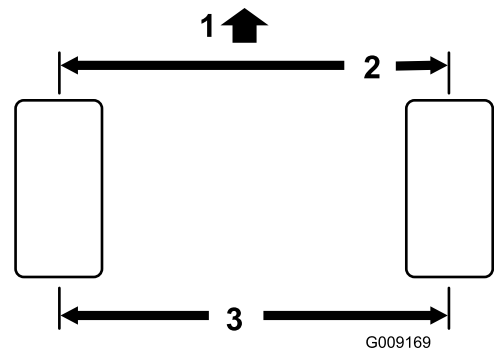

Figure 133
**Note:** The rear wheel toe-in adjustment is correct if the difference between the front wheel measurement and the rear wheel measurement is 6 mm (1/4 inch) or less. (Figure 133).